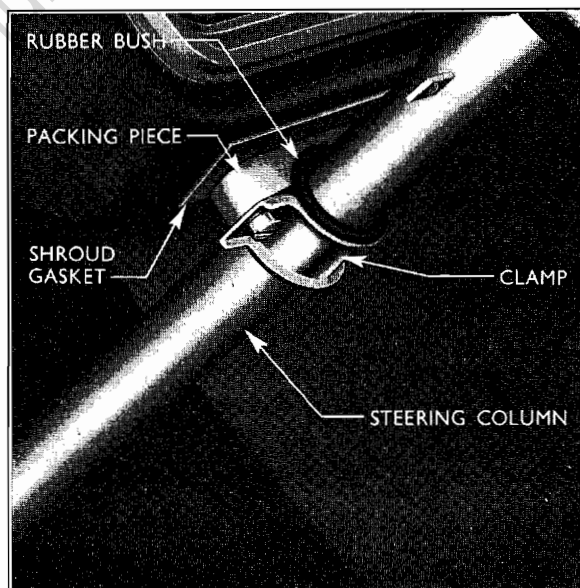

Fig. 10
3. Locate the rubber mounting bush around the steering column and position it with the upper mounting packing piece (see Fig. 10) against the underside of the fascia panel. Fit the shroud rubber gasket over the packing piece and against the instrument panel.